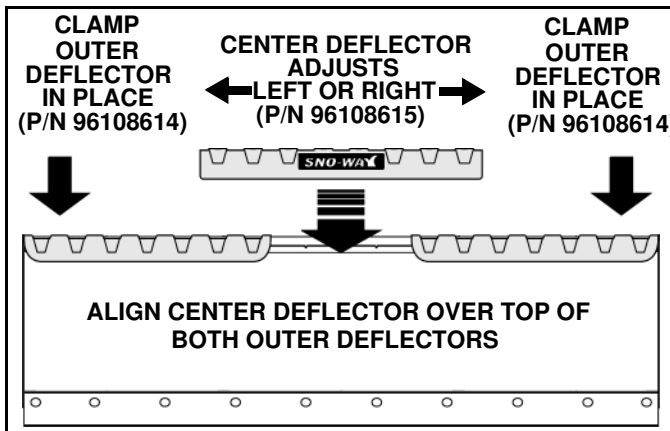

Figure 1-1
2. Position one outer snow deflector section (P/N 96108614) at the outside top edge of the plow blade. Clamp the deflector flat against the top of blade frame using a padded bus or spring clamp. Repeat this step for the opposite snow deflector section. (See Figure 1-1)
3. With both outer deflectors clamped in place, position the center deflector section (P/N 96108615) over the top of the outer snow deflectors. The reinforcement ribs in the deflectors should overlap and seat flush. If they do not seat together, reposition the outer deflectors until they install flat on the blade frame. (See Figure 1-1) Clamp in place.